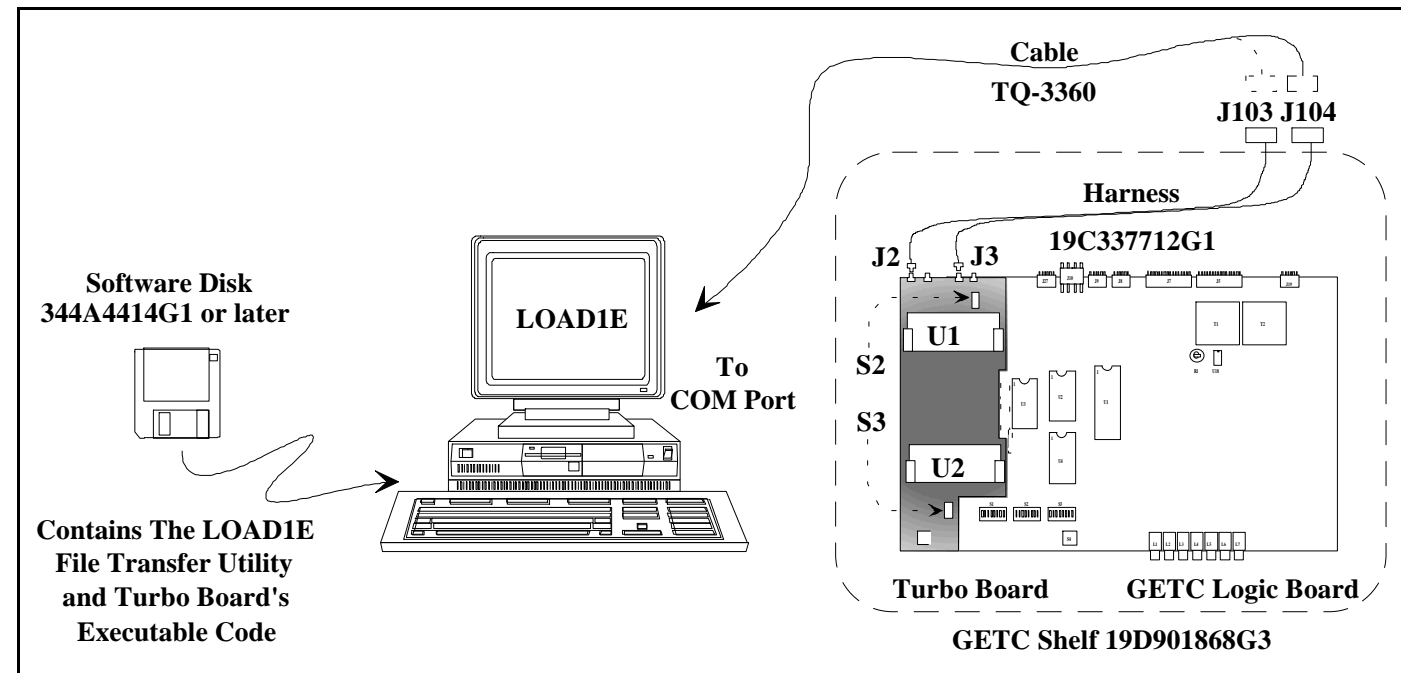

Figure 4 - Turbo Board Programming
1. Connect the TQ-3360 programming cable from the PC's serial port connector to the GETC Shelf connector J104 (see Figure 4). (A DB-25 to DB-9 adapter may be needed.)